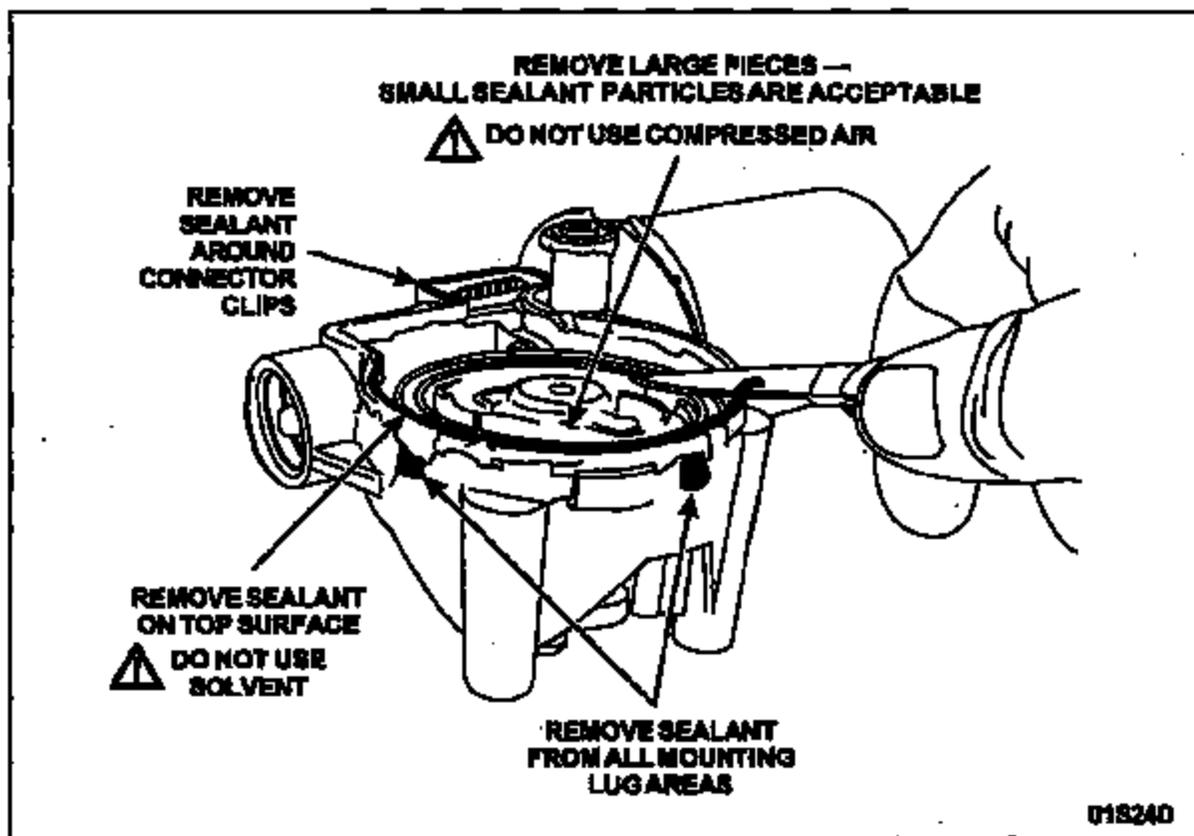

FIGURE 4
1. Remove the existing sealant from the top surface of the gear housing and around each of the five mounting lug areas. To avoid damaging the motor, extra care must be taken when removing sealant from the area around the internal electrical connector clips. See Figure 4.